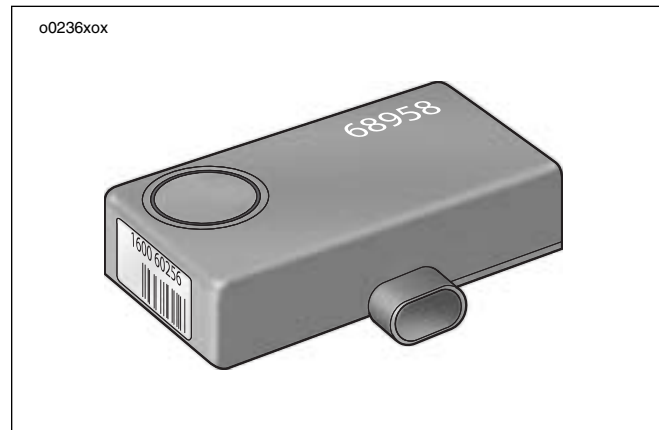

Figure 3-6. Siren
- **Security system alarm:** See Figure 3-6. The system will alternately flash the left and right turn signals and sound an optional siren if a vehicle security condition is detected while the system is armed.